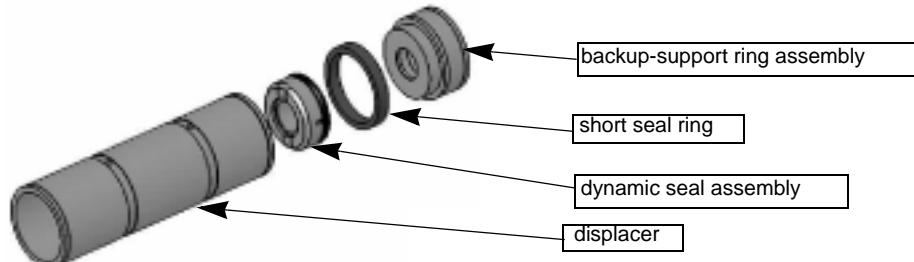

Figure 5-10: Sealing Assembly Components
6. The Backup-support Ring Assembly (Figure 5-15) is machined together as one assembly. The outer Support Ring is pressed onto the inner Backup Ring. These parts should not be separated. The Short Seal Ring (Figure 5-10) should be easily removed by hand. Remove the Short Seal Ring from all three Backup Ring Assemblies.
7. Before removing the Dynamic Seal Assembly (Figure 5-10) from the displacer, inspect the Dynamic Seal for extrusion (Figure 5-13). Extrusion of seal material around the edges of the bore in the dynamic seal is to be expected. Uneven, excessive extrusion and/or missing material from one side across the face of the Dynamic Seal indicates a failed seal with possible plunger damage caused by the plunger rubbing on the bore of the backup ring. If uneven or excessive material is extruded or missing, then a close inspection of the Backup-support Ring Assembly should be made for signs of rubbing.